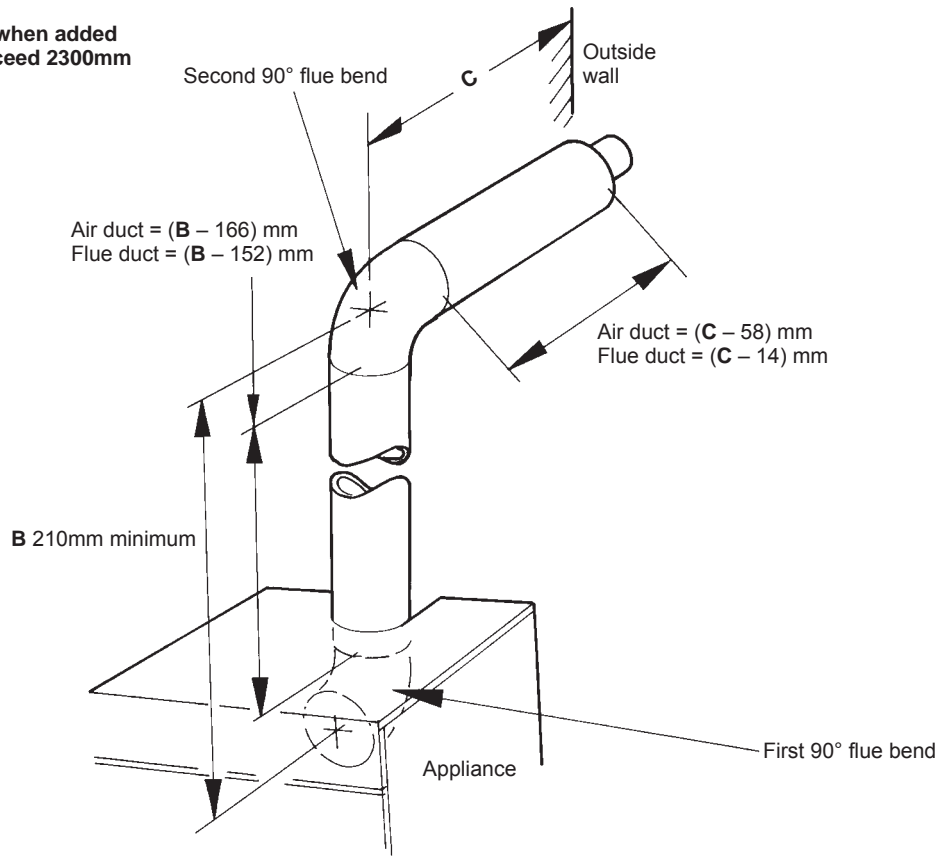

Fig. 28. Flue Option 7. Extension flue horizontal using a second and third 90° flue bend.
11.6.5. EXTENSION FLUE HORIZONTAL USING A SECOND AND THIRD 90° FLUE BEND. (FLUE OPTION 7). See Fig. 28.
Refer to Section 11.6.3 and measure Dimension B and C. See Fig. 28.